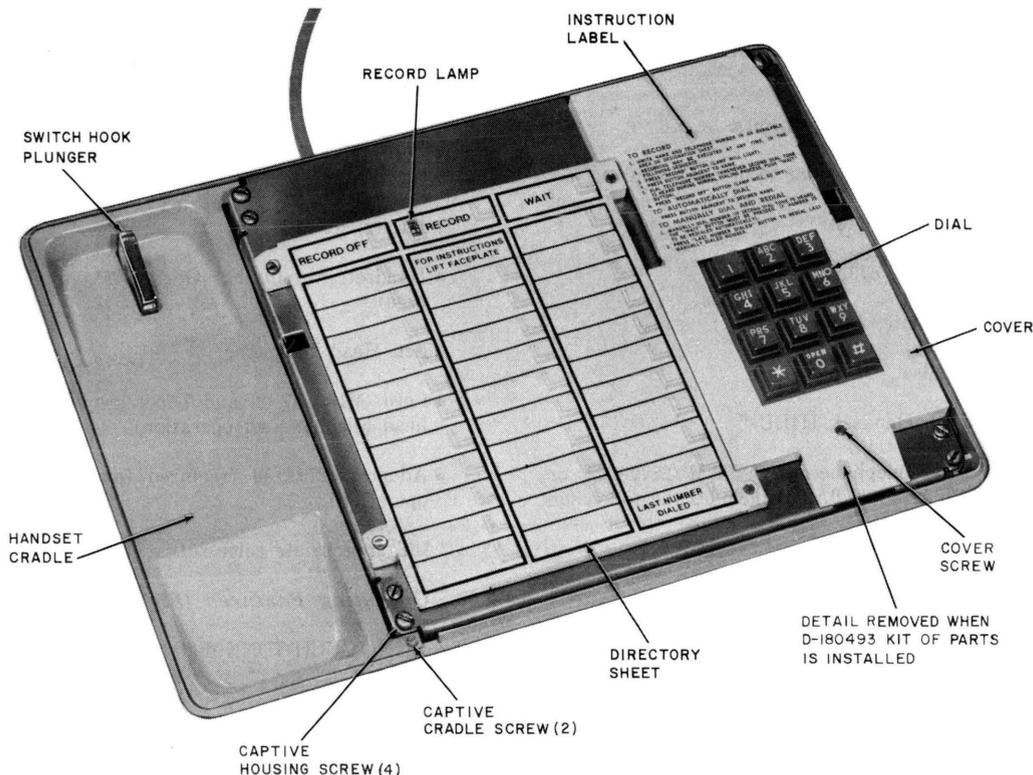

Fig. 2—Telephone Set—Faceplate and Handset Removed
2.06 Operating Features (Fig. 2):
- 3.05** The directory sheets (Fig. 2) fit over the buttons of the Memory and are held in place by the faceplate. Additional sheets are available in the directory sheet set (840393672).
- (6) Break off the detail at the bottom of the cover (Fig. 2) and trim edge as required.